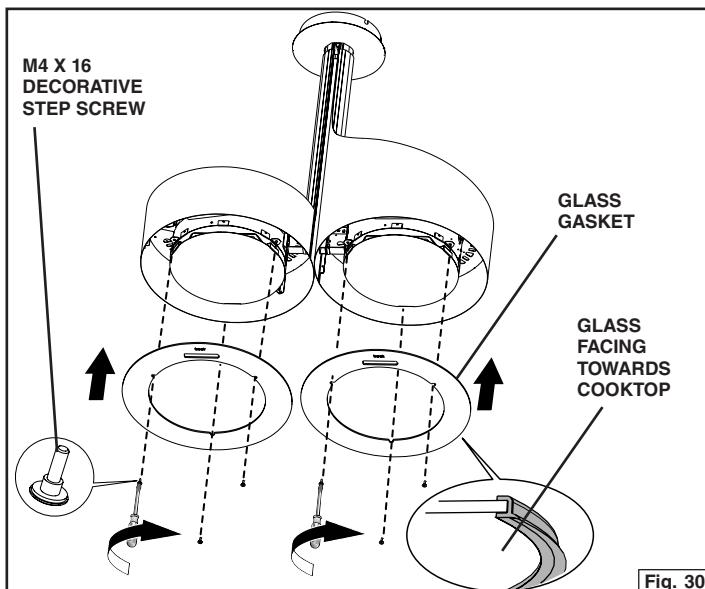

Fig. 30
3. Attach the Glass Gasket to the Glass as shown. Repeat for second glass. Fig. 30.
4. Pull the control wire thru the glass opening. Attach the Glass with (3) M4 x 16 Decorative Step Screws. Fig. 30. Repeat for second glass.